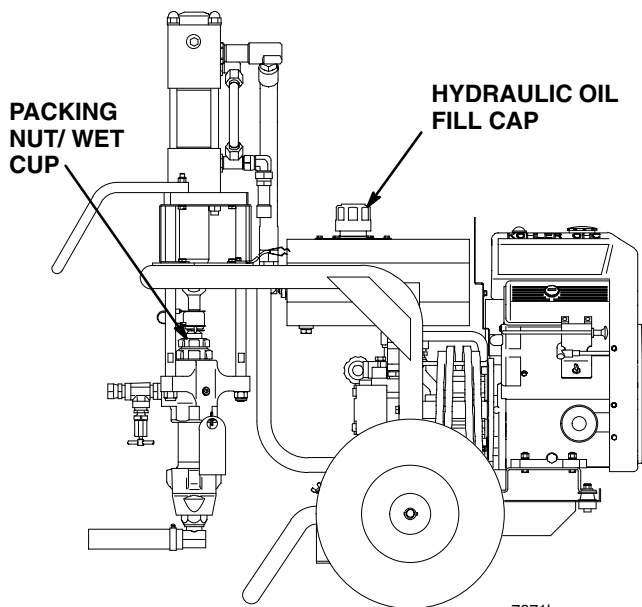

Fig 2
- Fill the Packing Nut/Wet Cup** 1/3 full with Graco Throat Seal Liquid (TSL), supplied. See Fig. 2.
- Unscrew the hydraulic oil fill cap. See Fig 2. The dipstick is attached to the cap. The oil should be up to the full line on the dipstick.